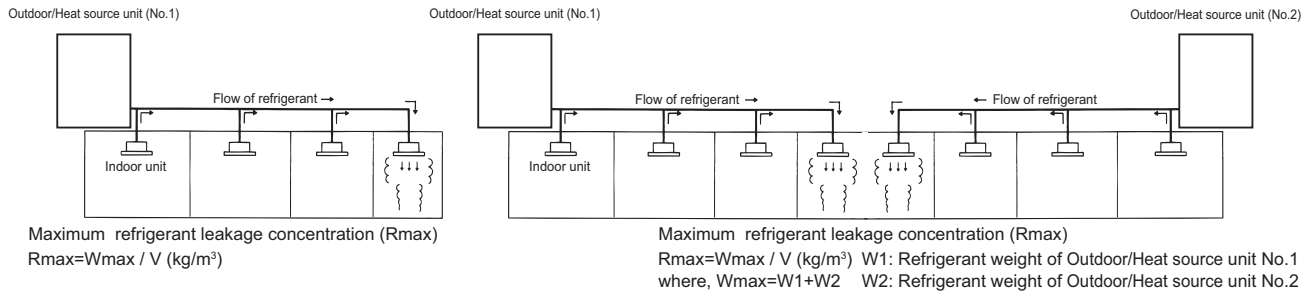

Fig. 1-1 The maximum refrigerant leakage concentration
The maximum refrigerant leakage concentration (Rmax) is defined as the result of the possible maximum refrigerant weight (Wmax) leaked into a room divided by its room capacity (V). It is referable to Fig.1-1. The refrigerant of Outdoor/Heat source unit here includes its original charge and additional charge at the site.